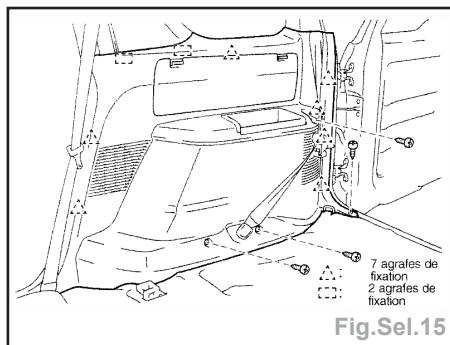

Fig.Sel.15
- les habillages de custodes (Fig.Sel.15),